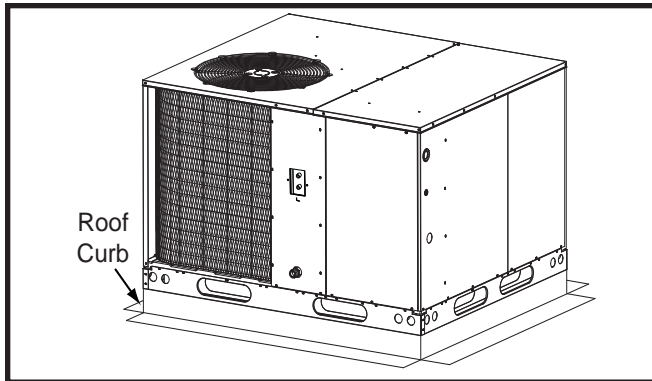

Figure 4. Roof Top Installation
- The appropriate accessory roof curb (Figure 4) must be installed prior to unit installation. The roof curb must be square and level to ensure proper condensate drainage. **Please follow all instructions provided with the kit.**